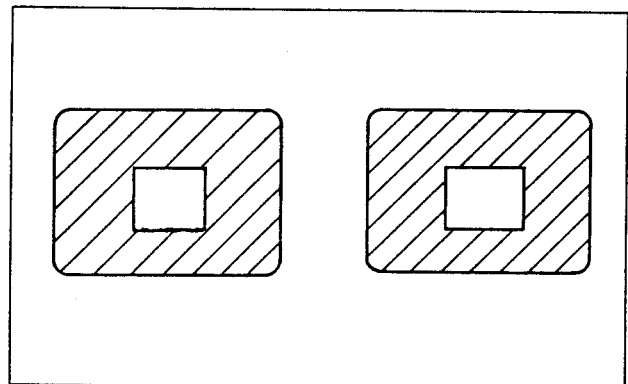

Fig. 1-6.
- 2) Set VR901 to the right end position, and turn the blurring and burr appearing in the lower part of the viewer counterclockwise so that they will disappear in the viewer. (See Fig. 1-6.)